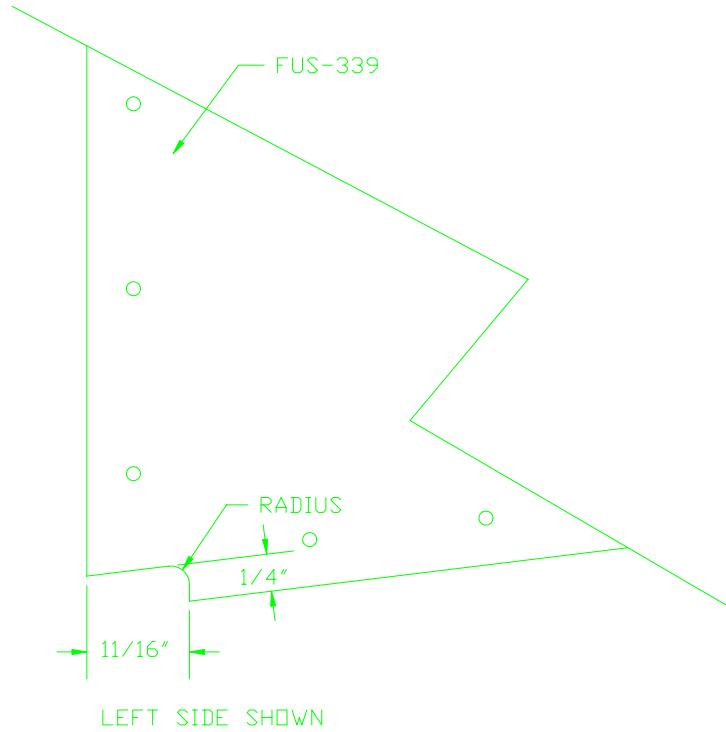

FIGURE 1
1) Trim the bottom flange of both FUS-339 side skins on the tailcone assembly as in Figure 1.